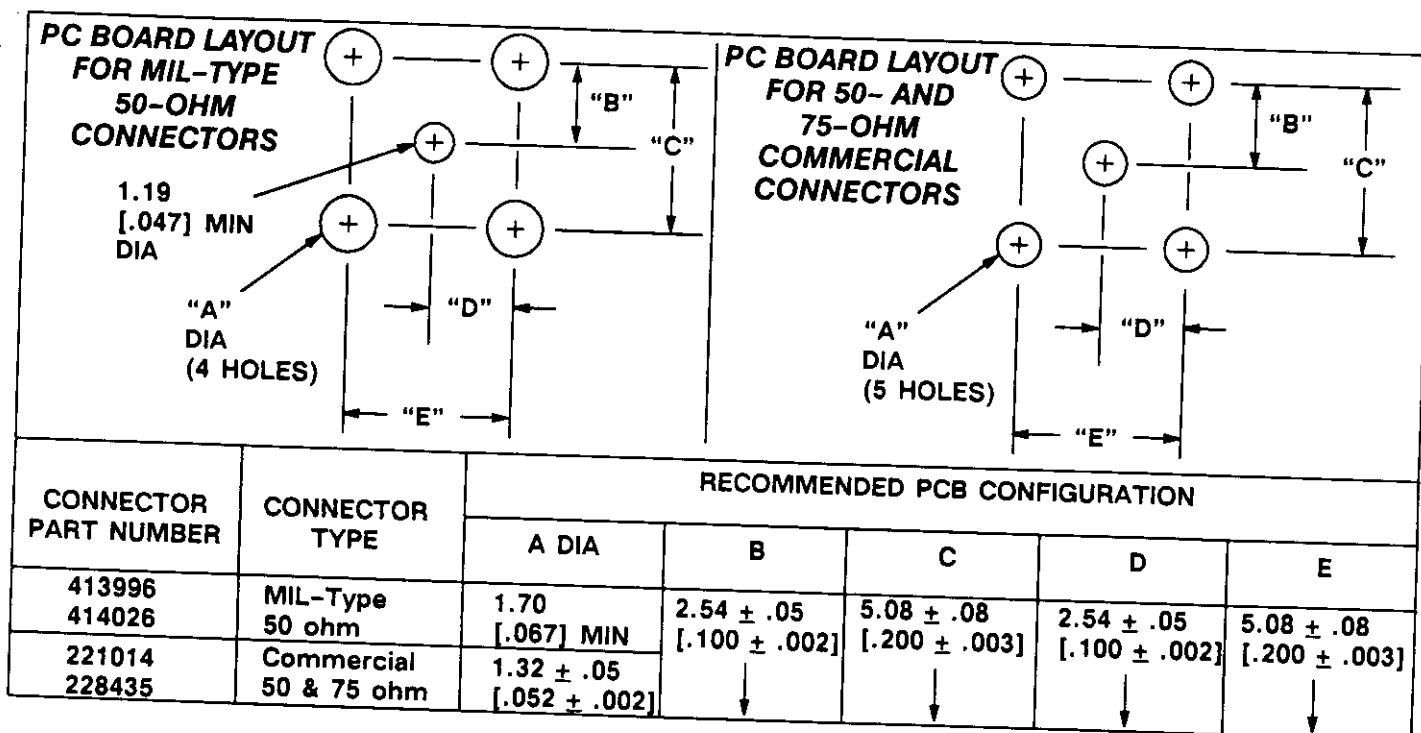

Fig. 2
2. Make a layout on the pc board using the appropriate dimensions provided in Figure 2.